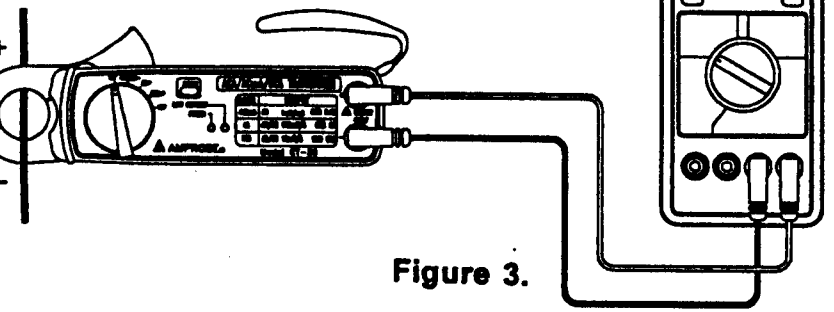

Figure 3.
8. Read the measured value from the meter's display. The switch side of the CT-30 should face (-) return for conventional current flow (+ reading). See Fig. 3.